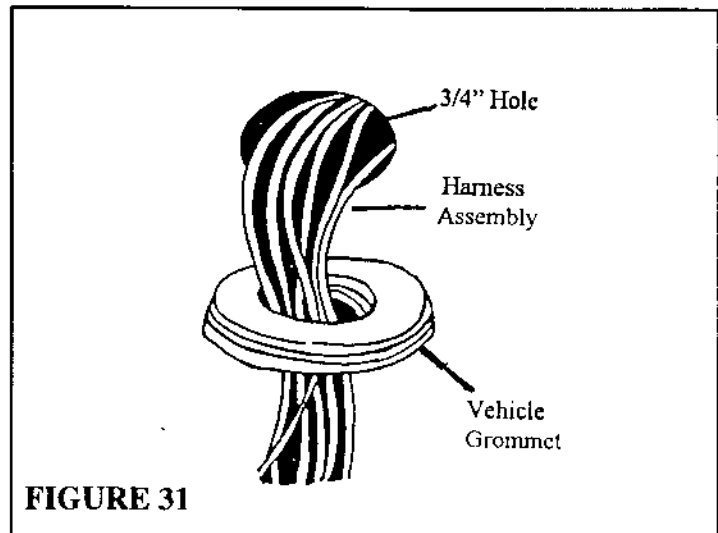

FIGURE 31
3. **Harness Assembly** needs a 3/4" hole to pass through bulkhead. You may find one nearby such as the speedometer cable hole or a small one you can file larger. If you find the right size hole in the right place, remove rubber grommet. If not, drill, saw, or punch a 3/4" hole in bulkhead. A hole a couple of inches to the left or slightly higher than the steering column is usually a good place. (**Figure 31**)